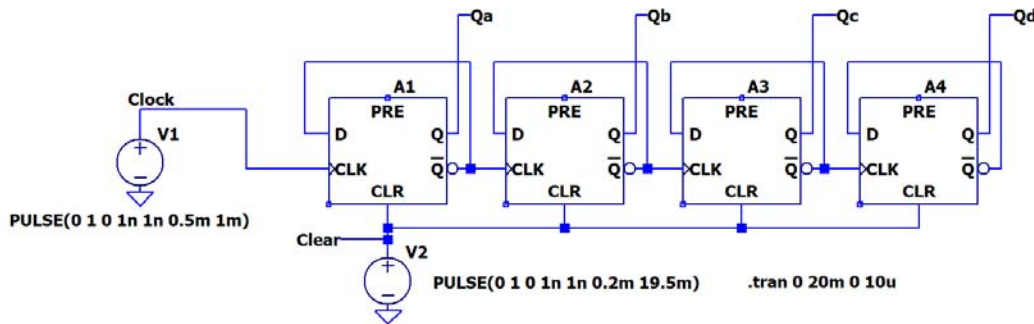

Figure C-1. In LTspice the D flip flop is called dflip
Binary Counters: Flip flops can be connected together to form a binary counter. While it can be done using JK flip flops it is simpler to use D flip flops. D flip flops are also called D latches, when a rising clock pulse occurs the output Q will be set equal to logic level of the D input. That value is latched or held until the next clock pulse. These can be used for binary counting by using the circuit shown in Figure C-1. The output of each flip flop is used as the input clock to the next flip flop. The D input is set to the opposite of the present output by using Qbar. This means that the D flip flop will toggle on each pulse of their clocks. The first flip flop toggles rising edge of a clock cycle. The output will complete one cycle with 2 rising edges of the clock. This causes a full cycle at the output at a rate equal to half of the clock rate. By the same reasoning, the second flip flop cycles at a rate of 1/2 of the 1st flip flop or 1/4 of the clock rate. The D flip flop gates shown also have the ability to be cleared using the CLR pin or preset high using the PRE.
- Simulate the circuit in Figure C-1 in *LTspice*. The gate used is called *dflip*. It is in the digital library.